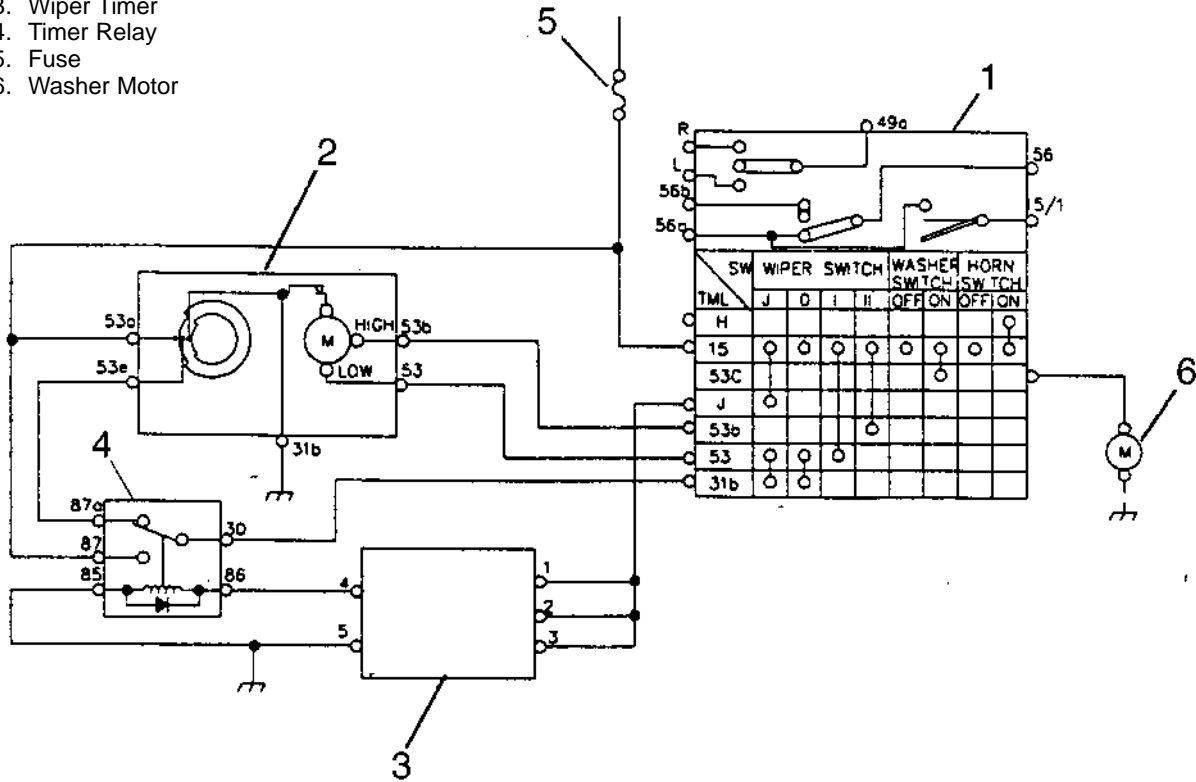

FIGURE 9-5
When the wiper switch (1, Figure 9-5) is in the I position, current is directed out of the switch at terminal 53. This current flows to terminal 53 on the wiper motor (2) and out to ground at terminal 31b. This powers the wiper at low speed.